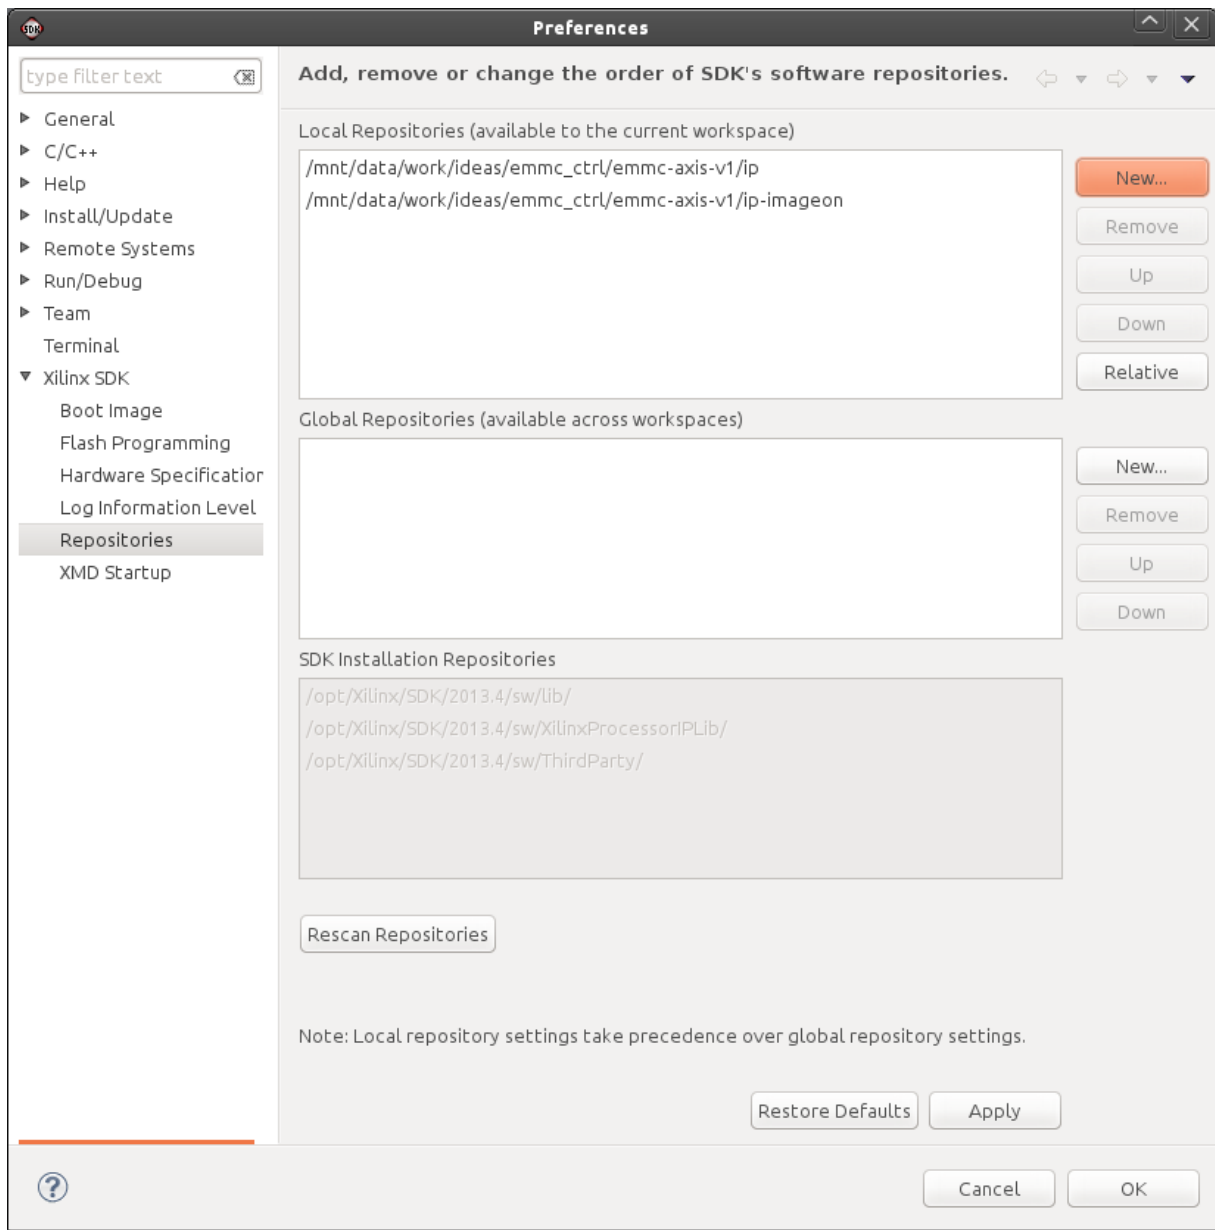

Figure 14: SDK IP repositories.
11. Set paths to IP repositories, menu: *Xilinx Tools*→*Repositories*. If there any path definitions exist, remove them. Set new paths to repositories *emmc-axis-v1/ip* (eMMC AXIS core) and *emmc-axis-v1/ip-imageon* (IMAGEON cores). It is recommended to use *ip-imageon* repository located in the package because it contains fixed version of the *Vita IP Core* (Figure 14).